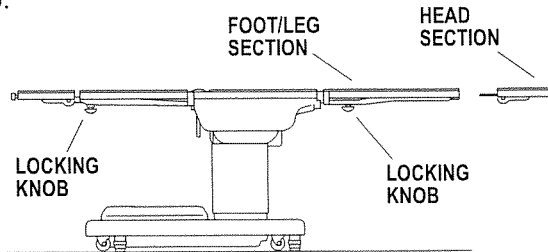

Figure 3-15. Repositioning Head Section (for use as a Foot Extension)
b. By loosening two locking knobs beneath the back section, an additional 5" of longitudinal adjustment can be achieved. If desired, the head section may be removed by loosening the locking knobs and pulling it straight out of the back section. 6500 Series Tables have the capability of attaching the head section to the leg section for use as a foot extension ONLY. Do Not reverse the patient on the table without first consulting with SKYTRON. Two locking knobs are located on the inside of the leg section for securing the head section. See figure 3-15.